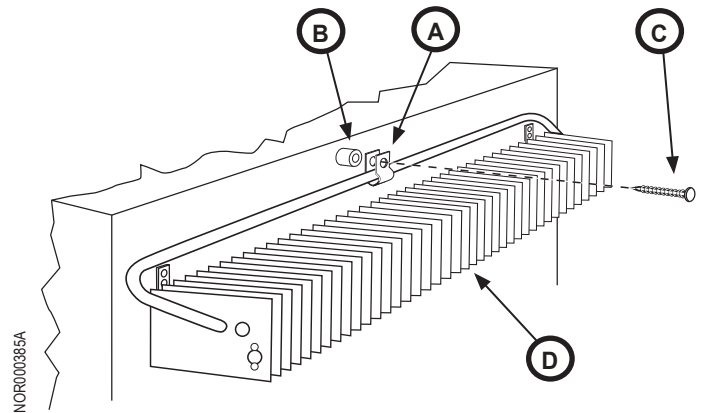

Fig. 14 - Serial Number 10086691 and Lower
- For serial numbers 10086691 and lower, use the loop clamp (Fig. 14,A), spacer (Fig. 14,B), and self-drilling screw (Fig. 14,C) to secure the condenser (Fig. 14,D) to the refrigerator cabinet. Do not use the brackets that are each end of the condenser.